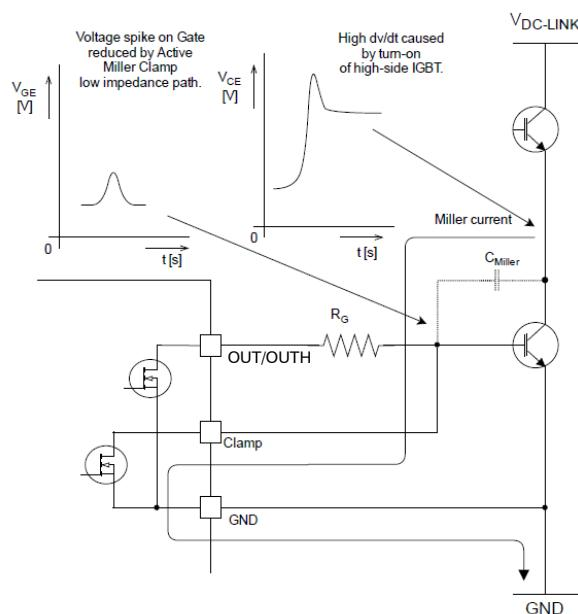

Figure 25. Current Path with Miller Clamp Protection
- In Unipolar power supply the driver is typically supplied with a positive voltage of 15 V at V_{DD2} . Dynamic turn on through the internal IGBT input capacitance could be prevented by Active Miller Clamp function (NCD57080A). CLAMP output should be directly connected to IGBT gate (Figure 25)